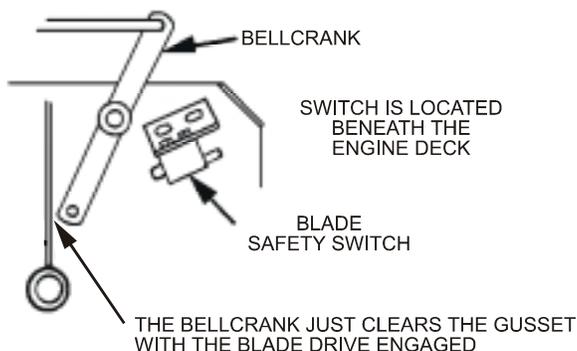
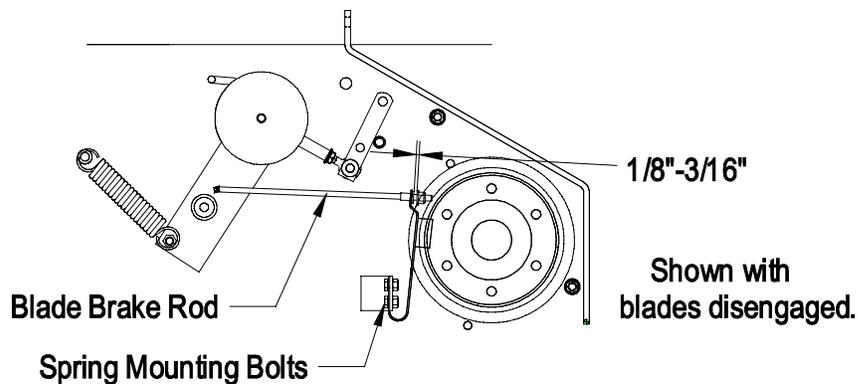

FIG. 9
**FIG. 10
- b) With blade drive engaged (lever pulled up, adjust the linkage length to where the lower end of the bellcrank just clears the axle support gusset (See Figure 9). Make sure the assist arm is against the rear assist arm stop on the deck (See Figure 10). Push the lever down to the disengaged position. The assist arm should contact the front assist arm stop on the deck. If it does not contact, readjust so that the bellcrank is closer to the gusset.
- Belt must be tight enough so it does not slip during heavy loads while cutting grass. Over-tensioning will reduce belt and spindle bearing life. To adjust belt tension, loosen the 5/16" whizlock nut on turnbuckle and rotate the turn buckle; rotate turnbuckle toward rear of mower to tighten, and toward front of mower to loosen belt tension (See Figure 10).
For 48" Decks: If there is no adjustment left in the turnbuckle and the belt is still loose, the rear idler pulley can be repositioned in the front hole (See Figure 10). The belt guide located next to the pulley must also be repositioned in the front hole when the pulley is moved. The turnbuckle will need to be readjusted.
- e) Proper belt tension will require about 10 lbs. side pull on belt, halfway between pulleys, to deflect belt 1/2". (See Figure 10, Point A).